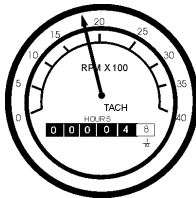

Figure 49. Engine Tachometer
- The tachometer (Figure 49) will indicate the speed of the engine when the generator is operating. Under normal operating conditions this speed should be approximately 1800 RPM's.